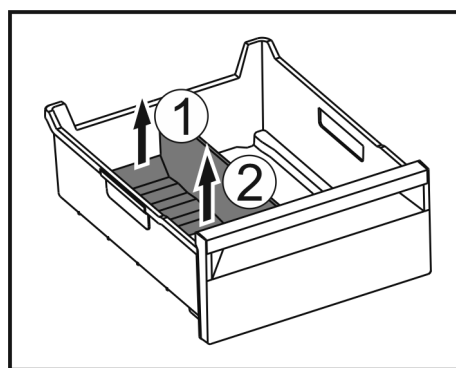

Fig. 249
- ▶ Lift the rear part of the ice compartment divider. Fig. 249 (1)
- ▶ Remove the ice compartment divider upwards. Fig. 249 (2)